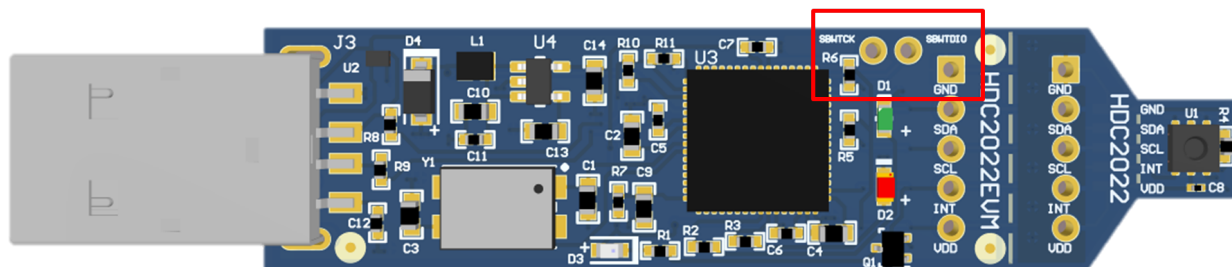

Figure 16. HDC2022EVM Spy-Bi-Wire programming connections
5. Insert the male end of the jumpers through the SBWTCK, SBWTDIO, and GND through holes on the HDC2022EVM. These are shown in Figure 16. Make these connections as follows: